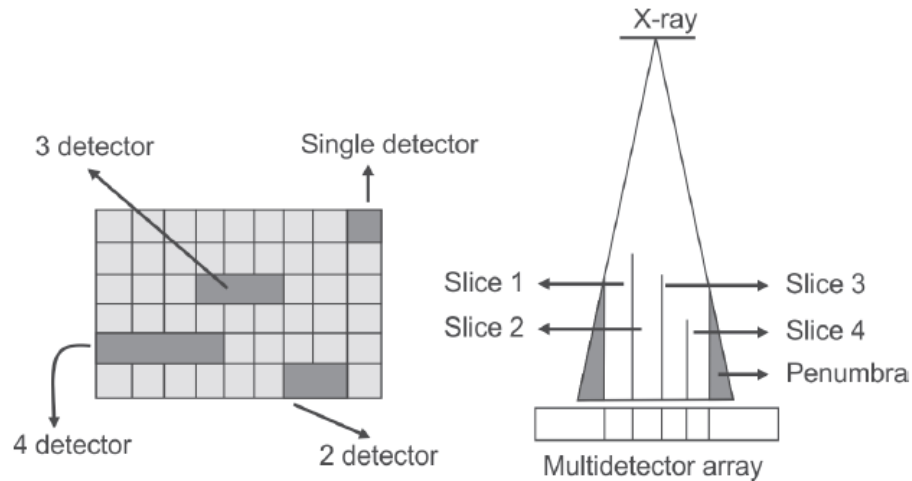

Figure7: Multidetector array and slice selection.
5. In a MSCT, the individual detector elements along the z-axis are summed, to get several slice thickness. Thus, the slice width is determined by the detector not by the collimator (figure7).